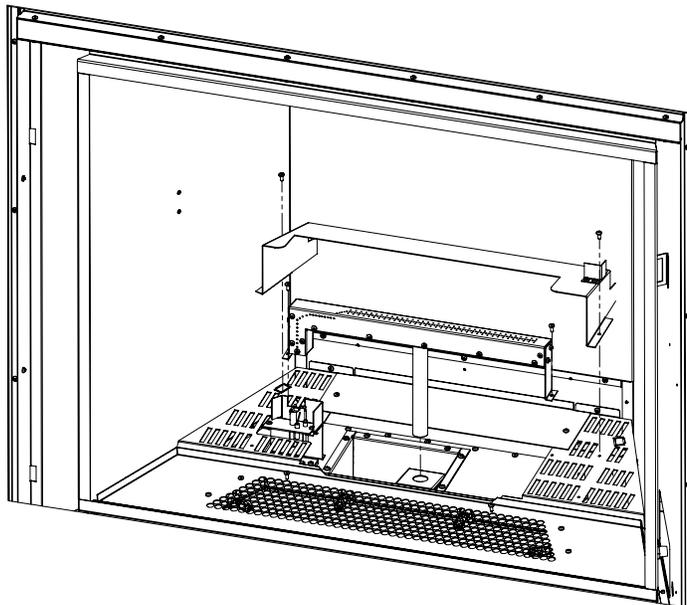

Figure 11. Rear Burner Removal
2. Remove the rear log support by removing the two T-20 screws (see Figure 11).
3. Remove the rear burner by removing the two T-20 screws (see Figure 11).